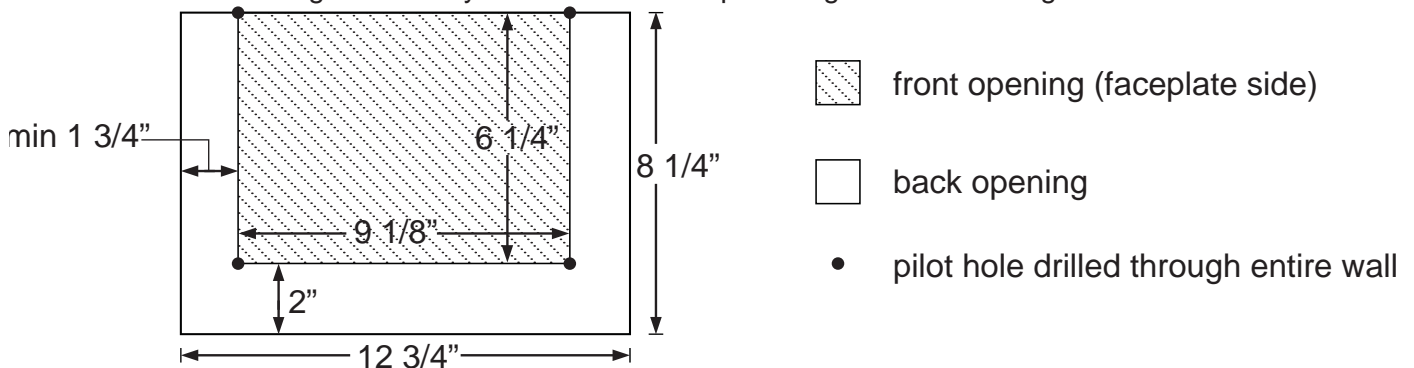

Fig. 14b
14.1 The fan distribution module must have a minimum clearance of 2 feet from the ceiling or adjacent walls and a minimum clearance of 3 feet in front of the faceplate. Try to avoid installing the fan module in high traffic areas of the home. With these distances in mind measure a rectangle of 9 1/8" wide by 6 1/4" high. The rectangle needs to be level with respect to the floor. Drill a small pilot hole through each corner from the faceplate wall and through the other side of the wall. With a saw cut out the rectangle from corner to corner. Take care not to drill through or cut any electrical wires or plumbing. Please see figure 14b.